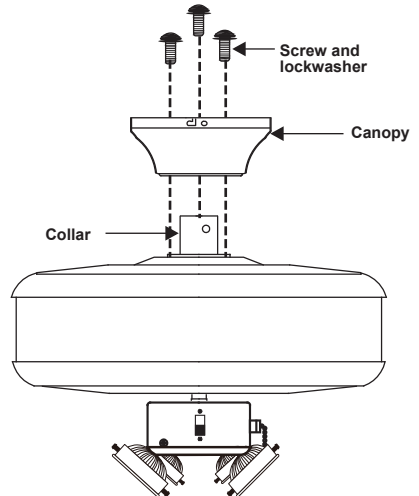

Fig.9
4. Place the ceiling canopy over the collar at the top of the motor. Align the mounting holes with the holes in the motor and fasten using the screws and lock washers provided. (Fig. 9)
5. Tighten the mounting screws securely. (Fig. 9)